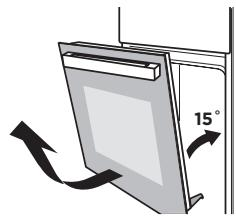

Figure 2
2. Close the door to an angle approximately 15°. Lift up and slowly pull the door out from the oven.(Figure 2)